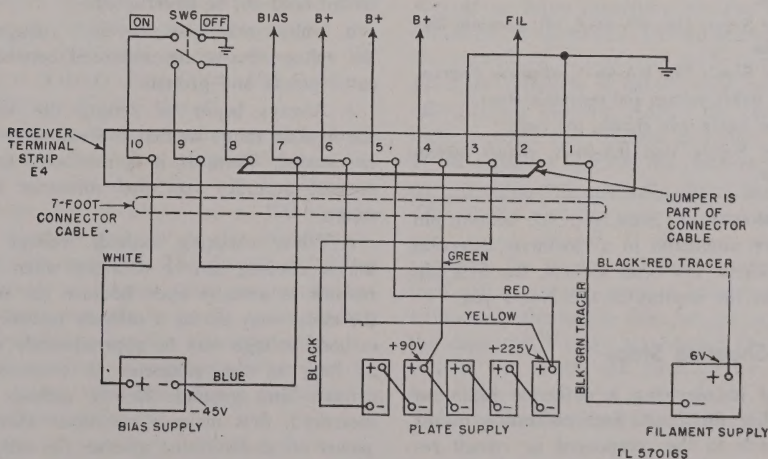

Figure 35. Connections for battery operation, functional diagram.
a. Although primarily designed for a-c operation, in an emergency the receiver can be operated from a 6-v storage battery, five 45-v plate supply batteries, and a .45-v bias battery. The 7-foot connector cable which is supplied for battery operation is connected as shown in figure 35. One end of the cable is provided with a terminal strip which connects to the terminal strip on the receiver. Terminals 2 and 8 of the connector cable terminal strip are shorted.